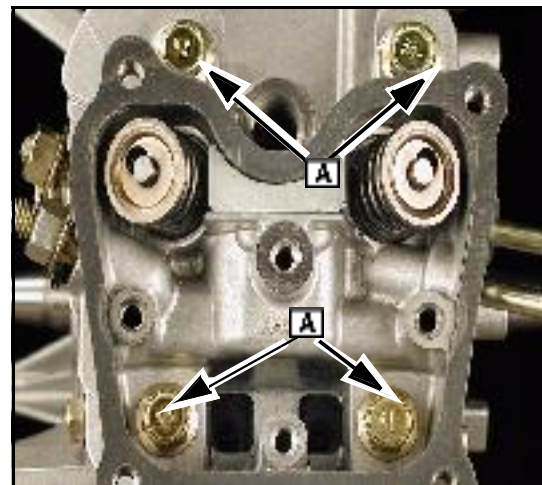

Fig. 6
1. Remove four cylinder head bolts ([A] Fig. 6) and lift off cylinder head.